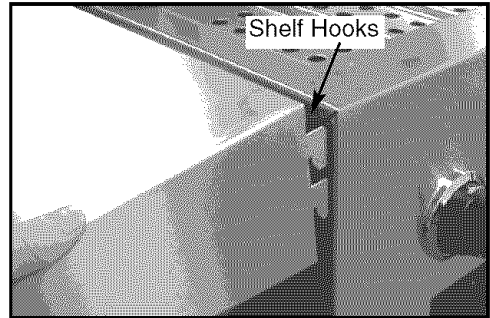

Fig. 1
1. Attach the shelf to the left side of grill by inserting the shelf hooks into the slots on the side of the grill and pushing down on the shelf assembly until level with grill. (See Fig. 1)